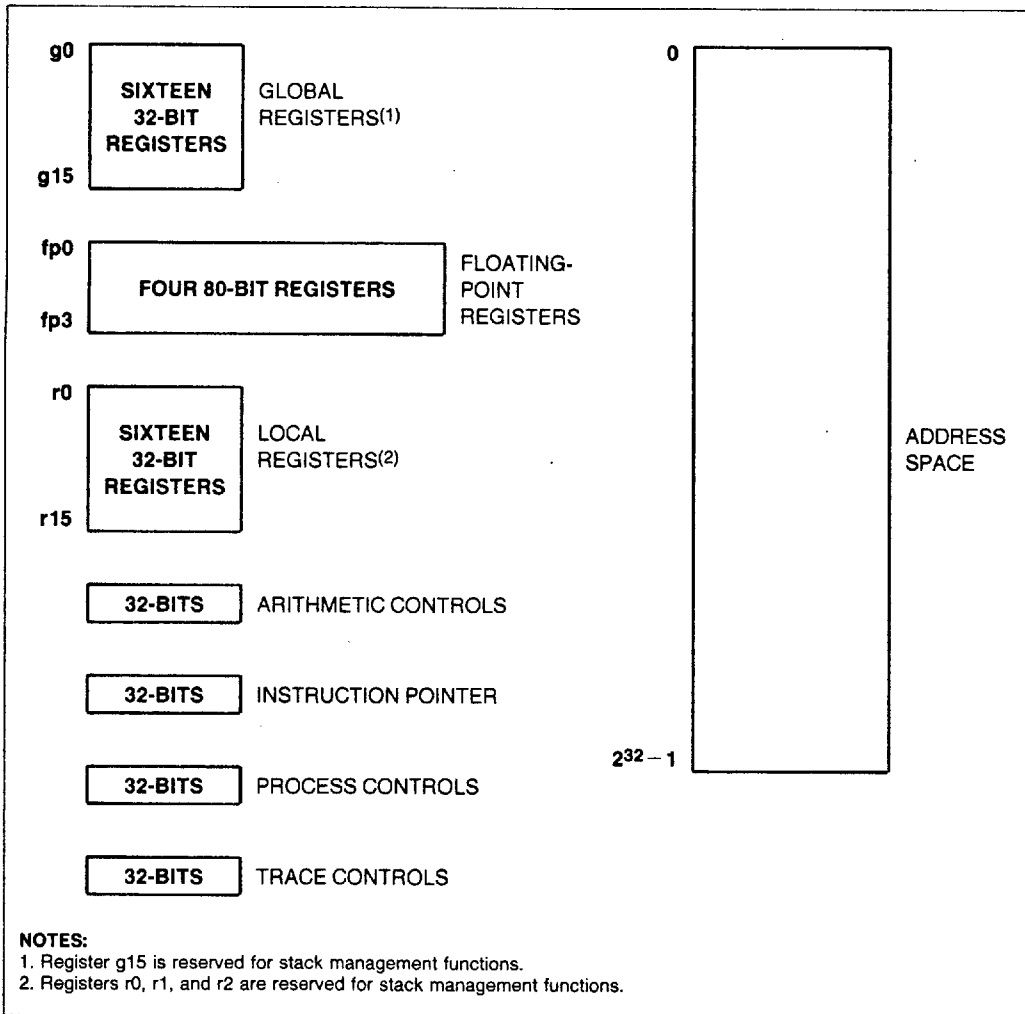

Figure 3. Register Set
1. Large Register Set. Having a large number of registers reduces the number of times that a processor needs to access memory. Modern compilers can take advantage of this feature to optimize execution speed. For maximum flexibility, the 80960XA provides thirty-two 32-bit registers (sixteen local and sixteen global) and four 80-bit floating-point global registers. (See Figure 3.)